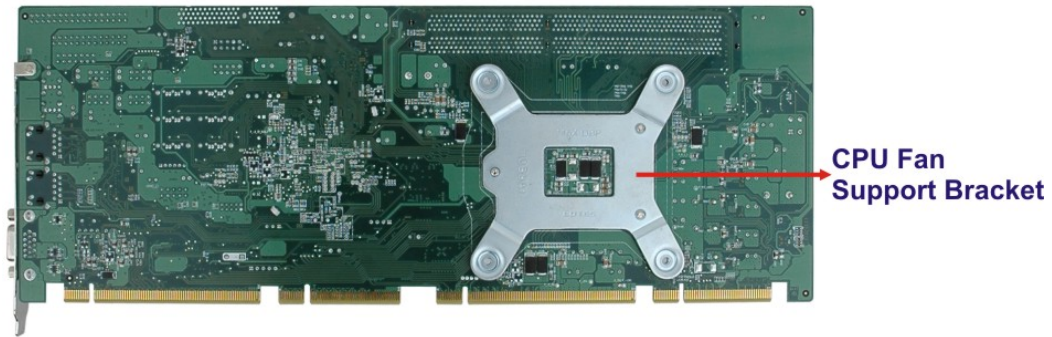

Figure 4-5: Cooling Kit Support Bracket
Step 1: A cooling kit bracket is pre-installed on the rear of the CPU card. See **Figure 4-5**.